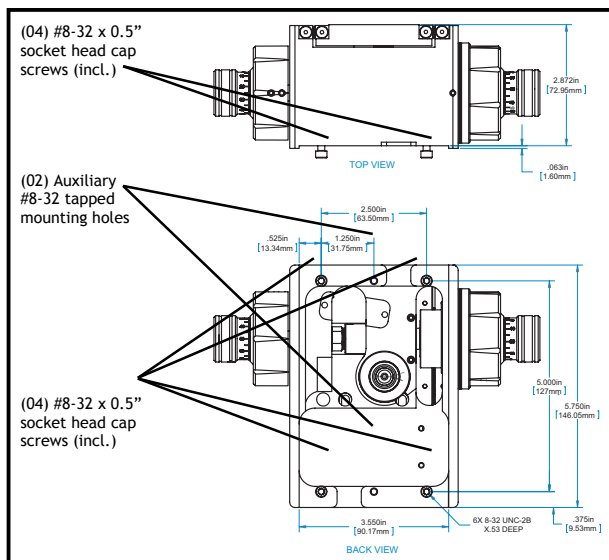

FIGURE 4
The A-Zoom Micro mounts to your probe station using four (04) #8-32 x 1/2 socket head cap screws provided. (See Fig. 4 for the dimensional specifications)